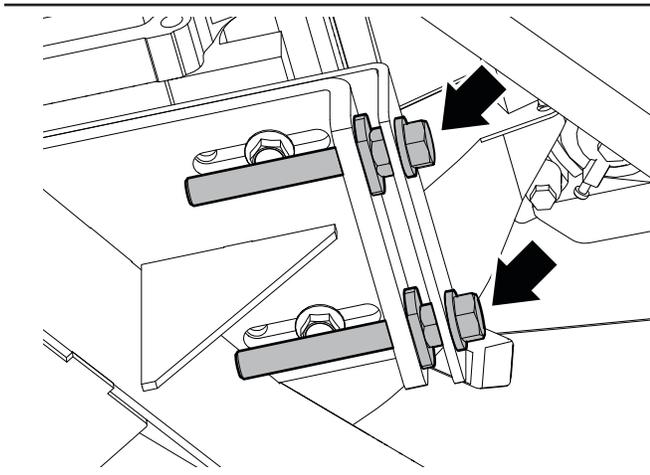

Figure 40—Drive belt tensioning bolts
4. Turn the drive-belt tensioning bolts to move the engine and remove tension from the drive belt. See *Figure 40 on page 59*.
4. Use the drive-belt tensioning bolts to set the drive belt tension. See *Figure 40 on page 59*.